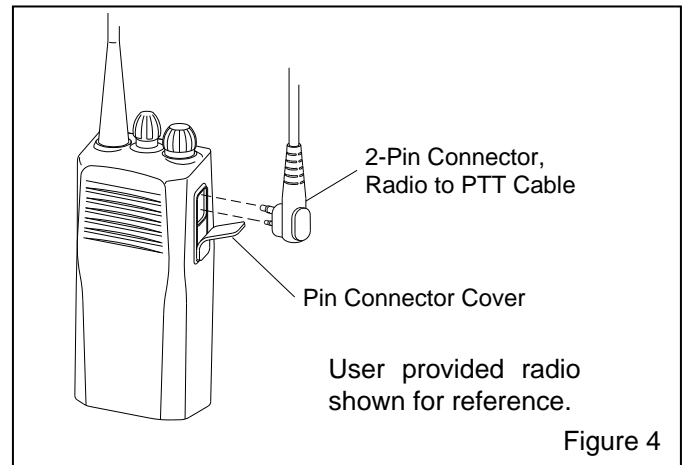

Figure 4
2.6.1 Refer to Figure 4 and pull the top of the rubber cover from the radio side connector and plug in the 2-pin connector. The style of radio shown in Figure 4 is for reference only; user's radio may differ.